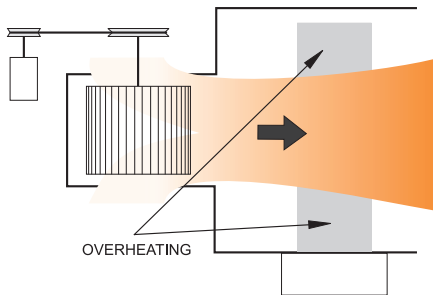

fig.2.23
- ⚠ If the electric heater is located too close to a fan, 2 overheating areas may occur (fig.2.23).